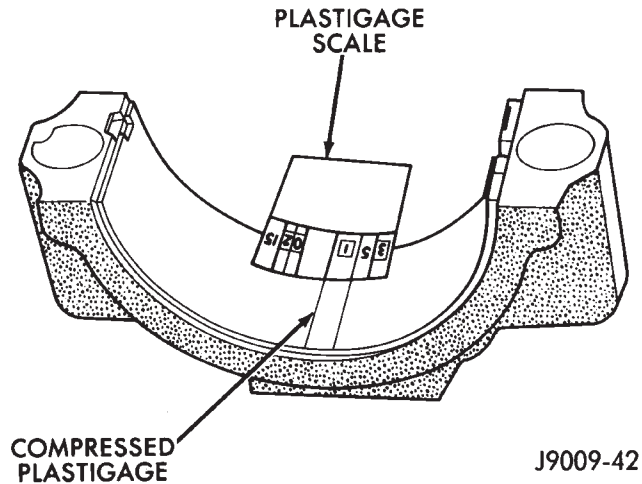

Fig. 17 Measuring Bearing Clearance with Plastigage
(6) Install bearing cap and connecting rod on the journal and tighten nuts to 45 N·m (33 ft. lbs.) torque. DO NOT rotate crankshaft. Plastigage will smear, resulting in inaccurate indication.
(7) Remove the bearing cap and determine amount of bearing-to-journal clearance by measuring the width of compressed Plastigage (Fig. 17). Refer to Engine Specifications for the proper clearance. **Plastigage should indicate the same clearance across the entire width of the insert. If the clearance varies, it may be caused by either a tapered journal, bent connecting rod or foreign material trapped between the insert and cap or rod.**
(8) If the correct clearance is indicated, replacement of the bearing inserts is not necessary. Remove the Plastigage from crankshaft journal and bearing insert. Proceed with installation.
(9) If bearing-to-journal clearance exceeds the specification, install a pair of 0.0254 mm (0.001 inch) undersize bearing inserts. All the odd size inserts must be on the bottom. The sizes of the service replacement bearing inserts are stamped on the backs of the inserts. Measure the clearance as described in the previous steps.